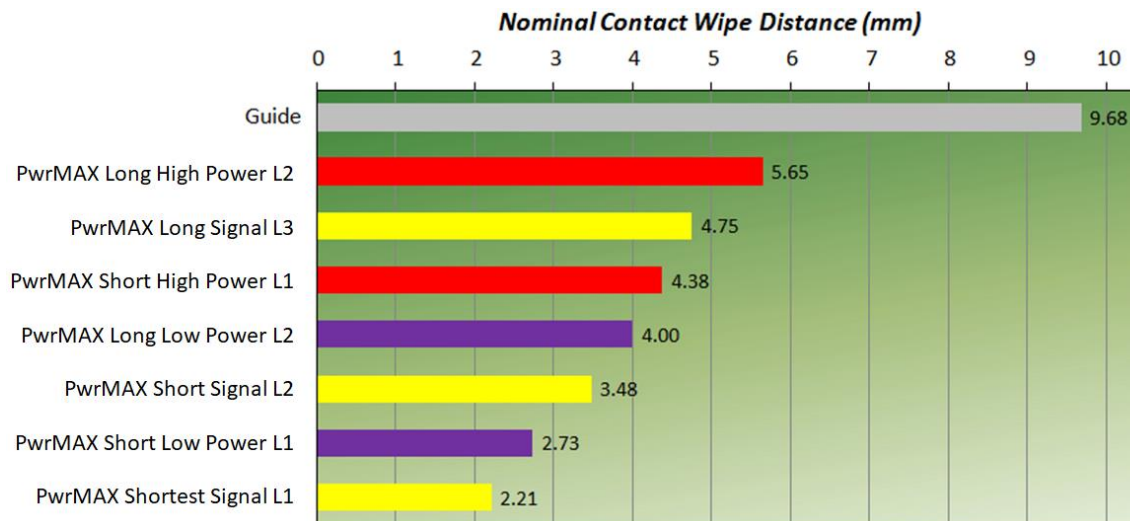

Figure 5 Nominal Contact Wipe Distance
Available mating lengths and associated wipe distances are achieved by changing the length of the header contact. See Figure 5 below for contact wipe distance details.
- Contact wipe distances in Figure 5 do not include tolerance associated with board-to-board distance.